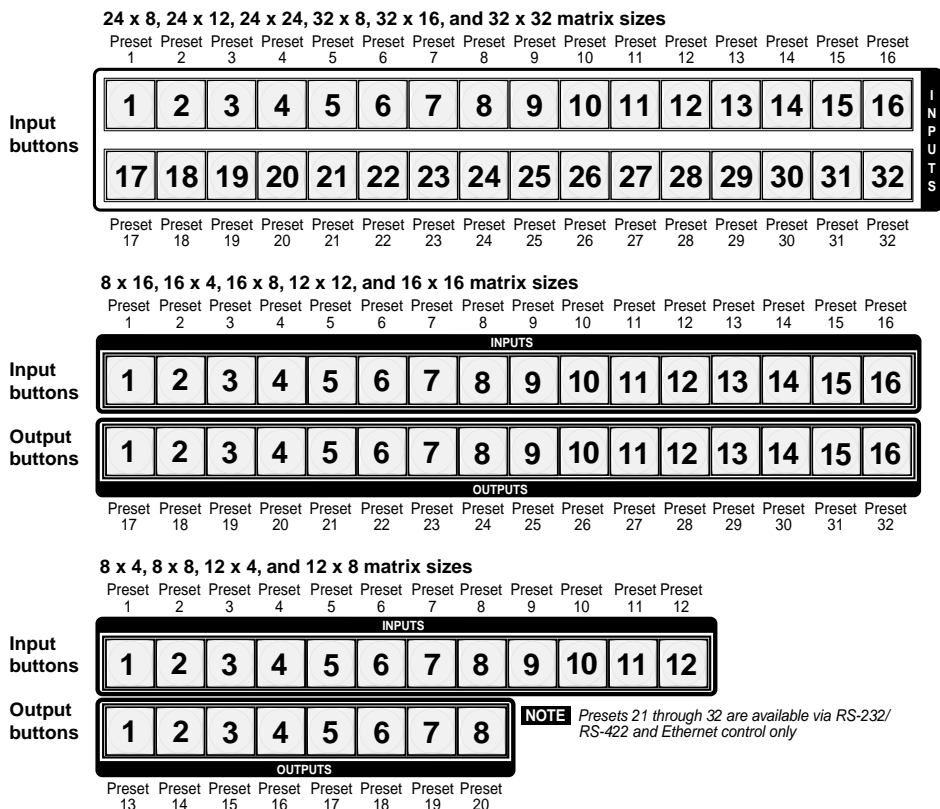

Figure 3-42 — Preset locations by matrix size
- Figure 3-42 shows the presets associated with the two input and output button configurations for the CrossPoint and MAV matrix switchers.
NOTE Figure 3-42 on page 3-31 shows the presets associated with the various input and output buttons for all three front panel configurations.